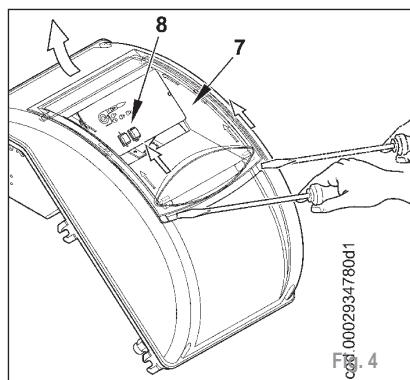

Fig. 4
- To close the switchboard cover, tighten the 4 screws (1) to a torque of approx. 5 Nm in order to ensure proper sealing. Now, to gain access to the control panel (8), release the clear door (7), by slightly prising with a tool (e.g. screwdriver) in the direction of the arrows shown in figure 4, let it slide shortly and then separate it from cover.